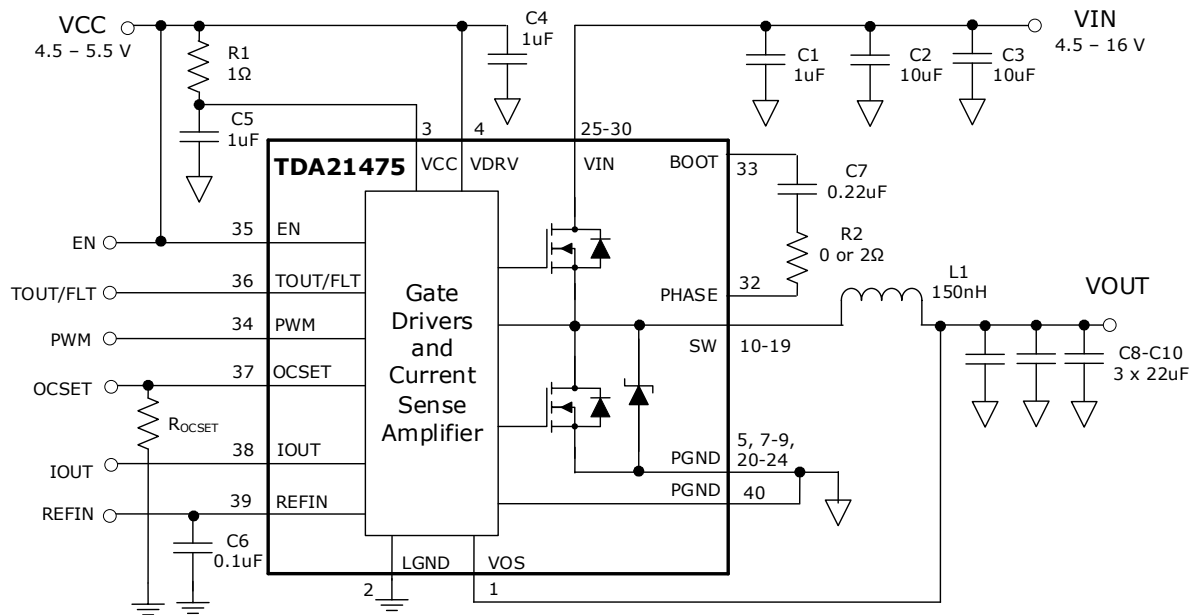

Figure 12 Typical Application Diagram for Single-Phase Voltage Regulator
Single Phase Circuit of Figure 12, $V_{IN} = 12\text{ V}$, $V_{OUT} = 1.8\text{ V}$, $f_{SW} = 600\text{ kHz}$, $L = 150\text{ nH}$, $V_{CC} = V_{DRV} = 5\text{ V}$, $T_{AMBIENT} = 25^\circ\text{C}$, no heat sink, no air flow, 8-layer PCB board of 3.7" (L) x 2.6" (W), no PWM controller loss, no inductor loss, unless specified otherwise.